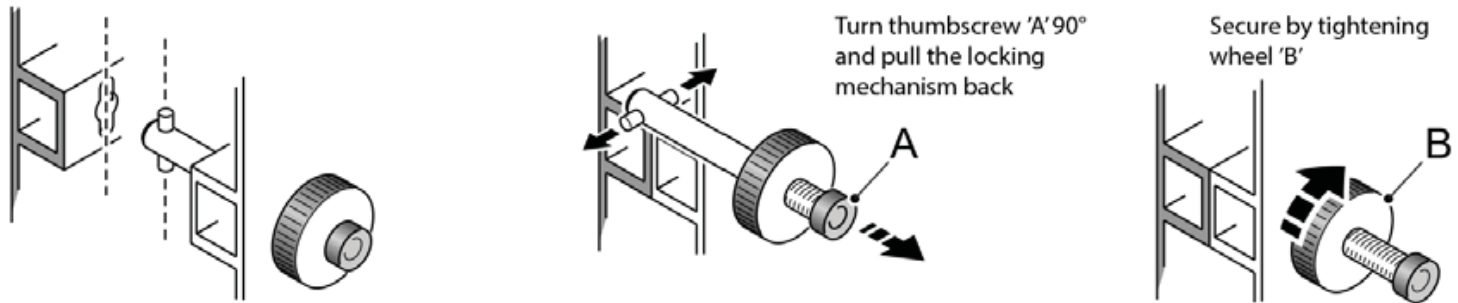

Figure 1-5.
- 6 Carefully align the panel (left to right) and secure it by aligning the notches on the thumbscrew locking mechanism with the slot in the adjacent panel. See Fig 1-5 below for details on how to secure the panel using the thumbscrew locking mechanisms.